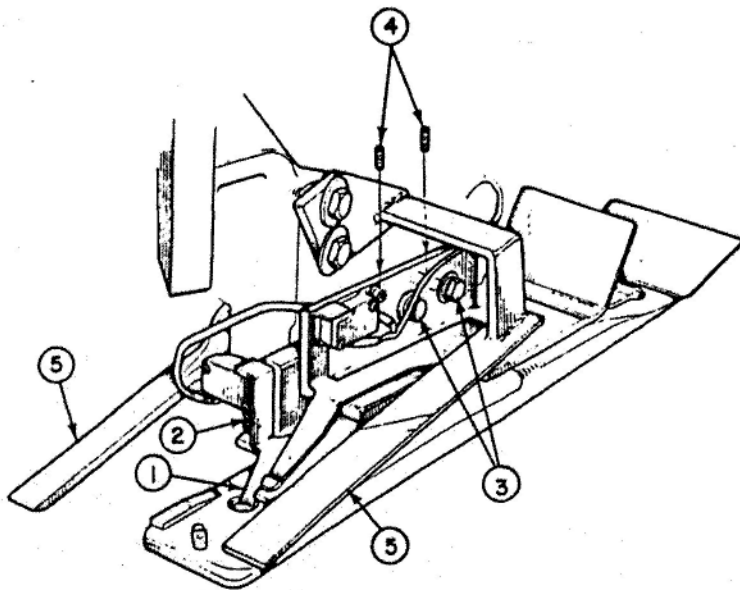

Figure 20 - Right-Hand Openhead
- a. The lower contact fingers (1), Figures 20 and 21, in both the right-hand openhead or left-hand openhead if used, should be adjusted to extend into the drilled hole of the openhead $\frac{1}{32}$ to $\frac{1}{16}$ of an inch. This can be accomplished by bending the finger when required. The switch is adjusted vertically by screws (2) to permit the contact finger tab to actuate the switch plunger to its full stroke in and out freely. Retighten holding screws (2) after adjustment.
- b. To adjust for clearance on a right-hand openhead upper contact finger, loosen the main attaching screws (3) in the associated bracket. Adjust the clearance by means of the two set screws (4) located close to and at right angles with the main attaching screws. A slight turn "in" or "out" on these screws will raise or lower the position of the upper contact finger. The contact finger should just be in contact with the contact plate. After adjustment, retighten main attaching screws securely, and make sure the set screws are tight to eliminate any chance of the bracket moving due to machine vibration.